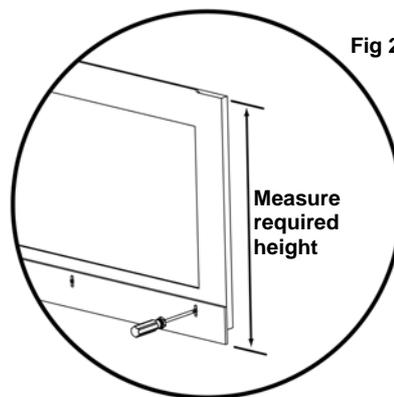

Fig 2
4. Each plinth attaches to the rear of the bath panel at its base and is located by bolting through the three slots on the plinth into the three corresponding holes on the bath panel. These slots provide the necessary adjustment of the bath panel to the required height. Measure from the main flat area on the top of the panel (not the thin raised lip area that locates under the rim of the bath) down to the bottom of the plinth and tighten the three bolts up. Ensure there is no gapping at the centre between plinths when the second plinth is attached. Fig 2